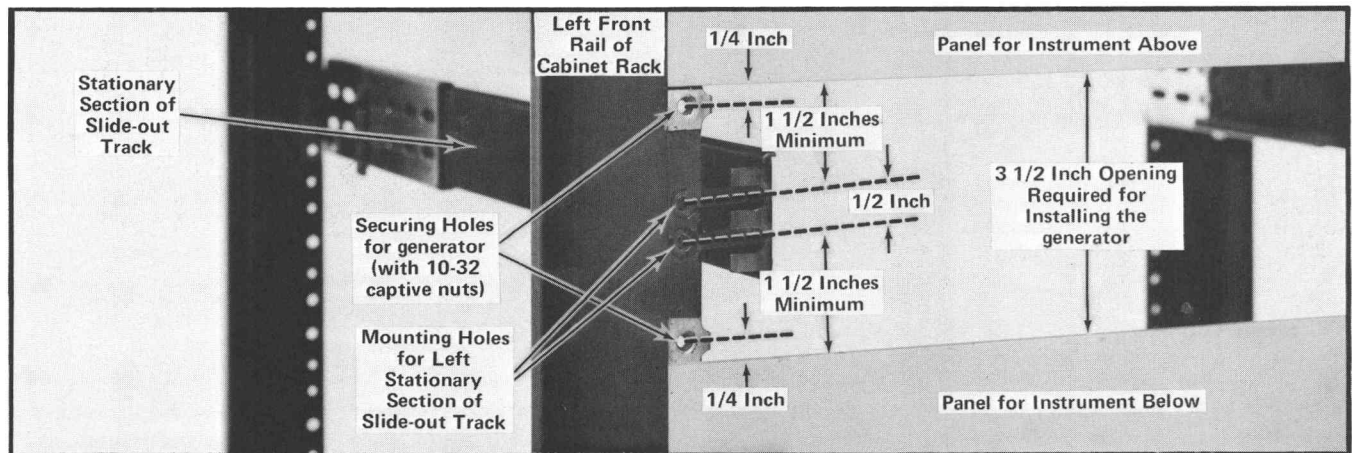

Fig. 5-5. Vertical mounting position of the left stationary section and location of the securing holes. These same dimensions apply to the right front rail.
Mounting Procedure—Use the following procedure to mount both sets. See Fig. 5-5 and 5-6 for installation details.
1. To mount the instrument directly above or below another instrument in the cabinet rack, select the appropriate holes in the front rack rails for the stationary sections using Fig. 5-5 as a guide.